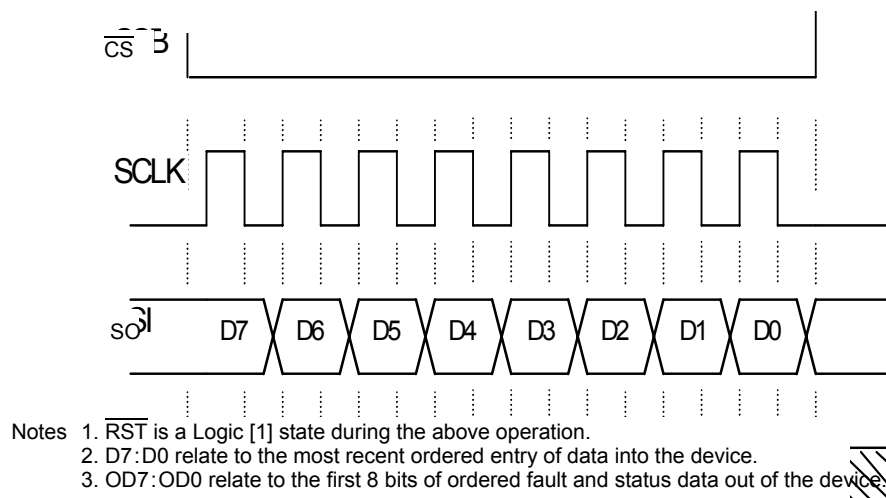
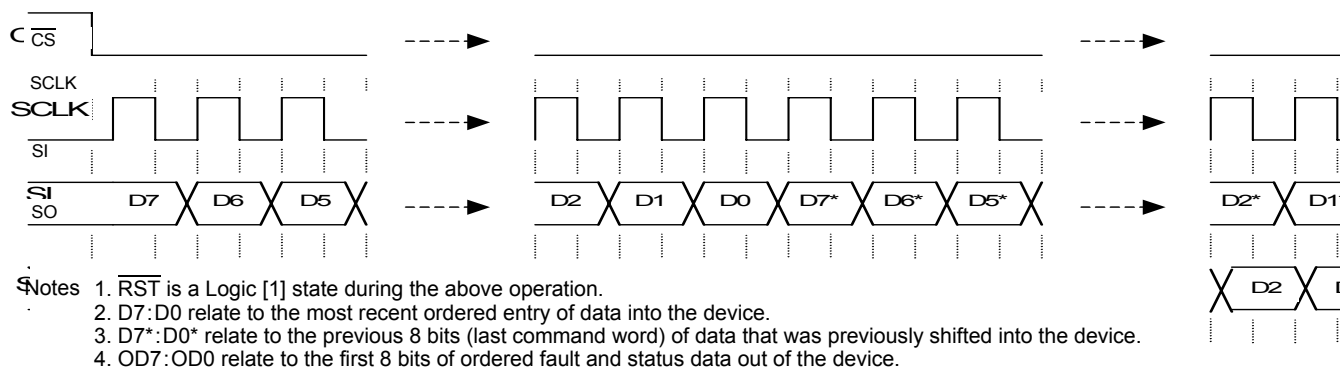

Figure 10. Single 8-Bit Word SPI Communication
Figure 11. Multiple 8-Bit Word SPI Communication
The SCLK pin clocks the internal shift registers of the 33982B device. The serial input pin (SI) accepts data into the input shift register on the falling edge of the SCLK signal while the serial output pin (SO) shifts data information out of the SO line driver on the rising edge of the SCLK signal. It is important that the SCLK pin be in a logic LOW state whenever \overline{CS} makes any transition. For this reason, it is recommended that the SCLK pin be in a Logic [0] state whenever the device is not accessed (\overline{CS} Logic [1] state). SCLK has an active internal pull-down, I_{DWN} . When \overline{CS} is Logic [1], signals at the SCLK and SI pins are ignored and SO is tri-stated (high-impedance). (See Figure 10 and Figure 11.)